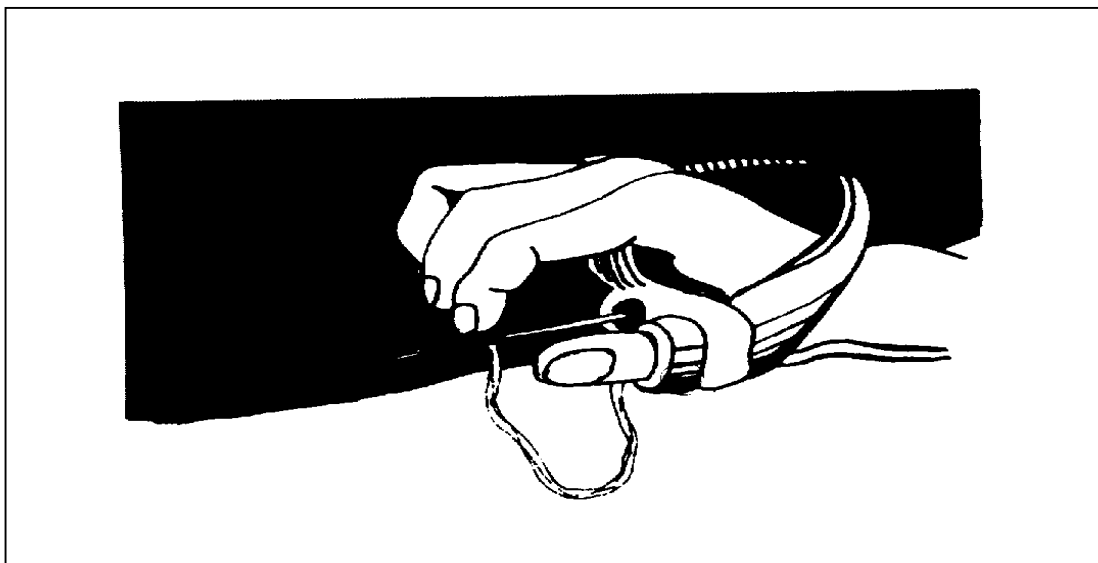

Figure 7-8. Backstitch on canvas
b. **Backstitch.** The backstitch (Figure 7-8) is used on canvas to close an open seam and to tack the beginning and the end of a row of hand stitches. To make a row of backstitches--
(1) Push the sailmaker's needle through the canvas or webbing, and pull the thread through to the knot.
(2) Tack the beginning of the row by tacking two small stitches, one on top of the other.
(3) Push the needle up through the canvas or webbing one stitch length from the first two stitches.
(4) Take one stitch back, pushing the needle down into the canvas or webbing at the end of the first two stitches.
(5) Push the needle up through the canvas or webbing one stitch length in front of the previous stitch.
(6) Stitch back, pushing the needle down into the canvas or webbing at the end of the previous stitch.
(7) Continue to stitch to the end of the row as in 5 and 6 above.
(8) Tack the end of the row by taking two stitches, one on top of the other.
(9) Make a knot in the thread close to the canvas, and cut off the remaining thread.